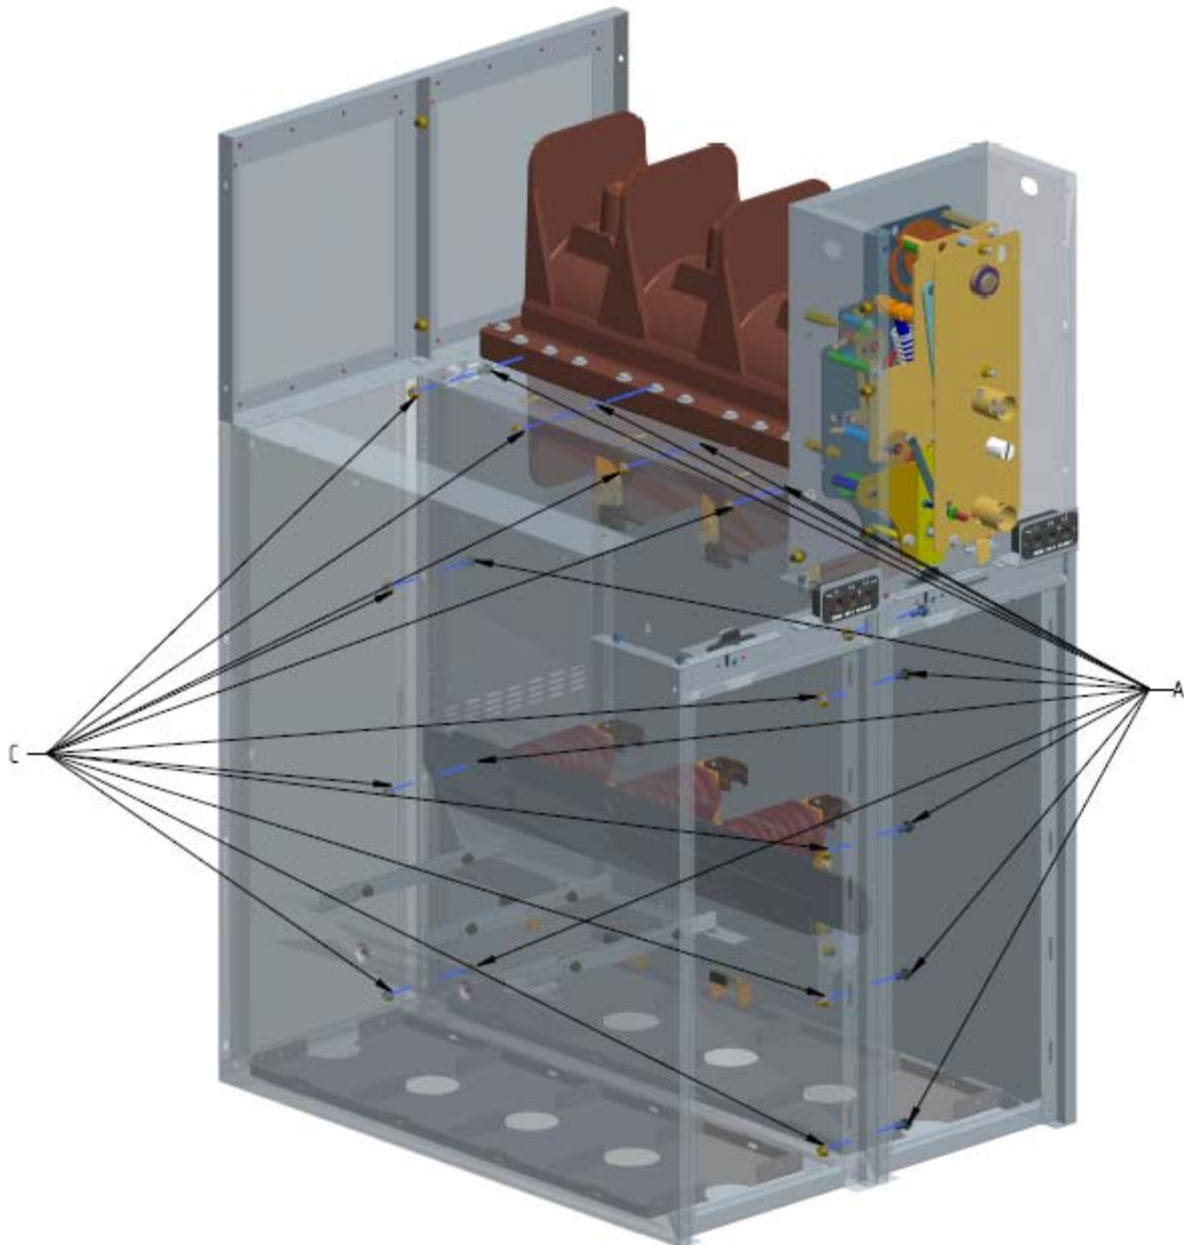

Figure 10: Coupling DF-3 cubicles at the height of the cable compartment
In the control and low-voltage compartment, cubicles are mutually connected with the use of four M8x16 RIPP self-locking hexagonal flange bolts (A) and four M8 RIPP self-locking hexagonal flange nuts (C), see Figure 10. Torque M_A equals 42Nm.